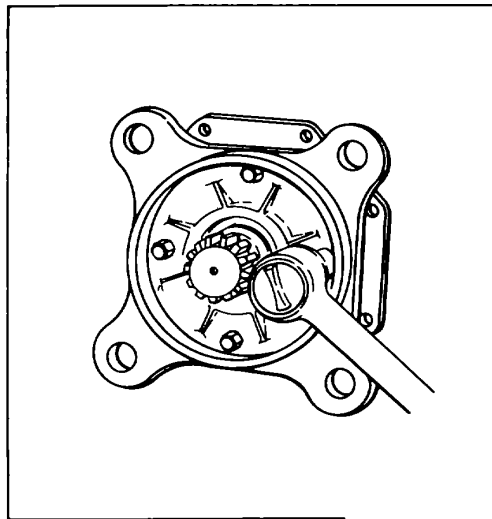

Figure 126.
18. Reverse mounting flange (2) and remove four hex bolts (3) (six where applicable) and lock washers (6). See Fig. 126.